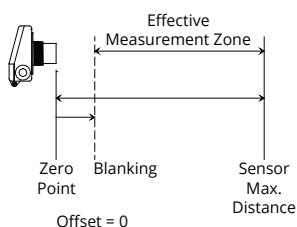
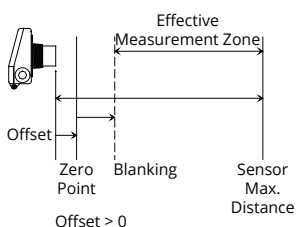
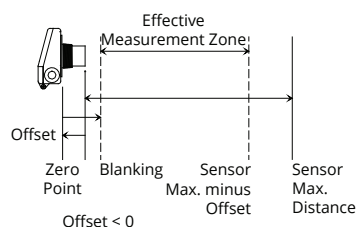

Figure 3.4
Figure 3.5
Figure 3.6
**i** IMPORTANT: *Blanking* is always measured from the Zero Point of the sensor. See Figures 3.4 - 3.6.
*Offset* is used to change the Zero Point of the sensor. This is not the zero output (4 mA, 0 V, etc.) point of the sensor. The Zero Point of the sensor is the point from which the calculated distance is measured. When the Offset is set to 0, the Zero Point of the sensor is at the face of the transducer (See Figure 3.4). A positive setting will move the Zero Point forward, in front of the sensor face (See Figure 3.5). Setting the Offset to a negative number will move the Zero Point backward, behind the sensor face (See Figure 3.6).
In all cases, Blanking is measured from the end of Offset, and the effective measurement zone of the sensor begins at the forward end of Blanking. If Offset is more negative than Blanking is positive, the net difference will be a loss in sensor maximum range (See Figure 3.6).